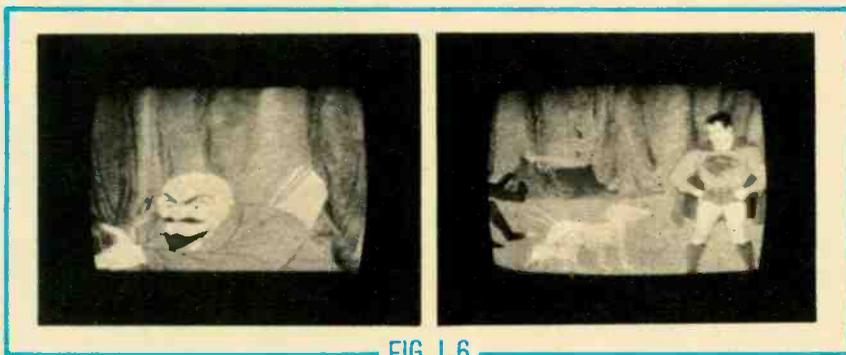

FIG. 1-6
- The *pincushion corrector* takes care of a condition inherent in rectangular-screen color receivers. Take a look at the color raster in Fig. 1-6 (left). The bowing of lines at the top of the raster is called pincushioning because of the rounded appearance of the lines. You will learn to adjust the corrector circuit to eliminate this bowing as shown in Fig. 1-6 (right).